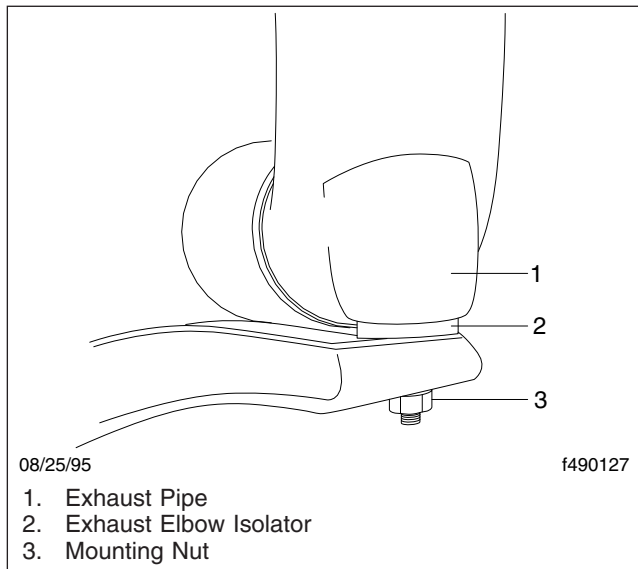

Fig. 7, Exhaust Elbow Isolator
- Check the isolator at the base of the exhaust stack elbow(s) (see Fig. 7), for cracking, damage, and dry rot. Replace as needed.